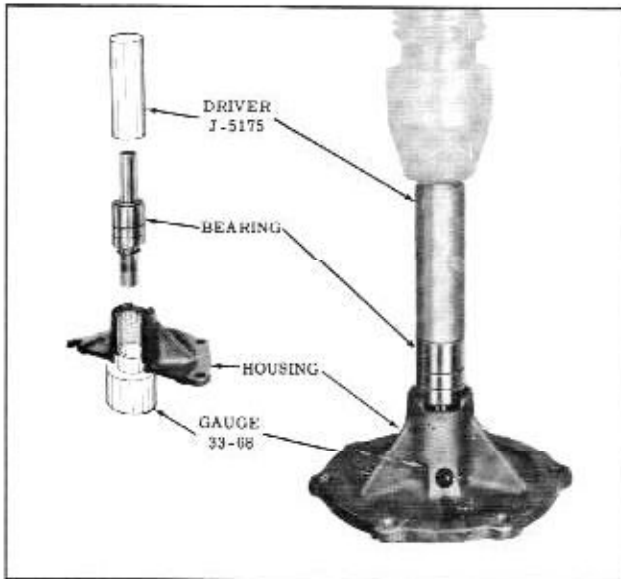

Fig. 8-61 Installing Bearing
1. Place Bearing Installation Gauge 33-68 in pump housing, then press bearing assembly into pump housing as shown in Fig. 8-61 until bearing bottoms on gauge.